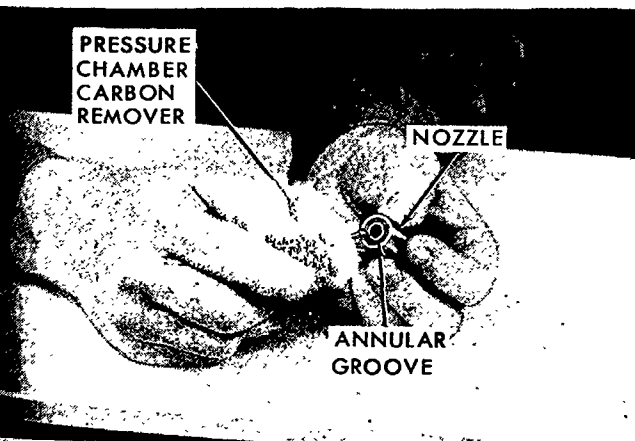

Figure 34
5. Clean the annular groove in the top of the nozzle and the pressure chamber groove in the nozzle with the Pressure Chamber Carbon Remover, page 32, Figure 34.